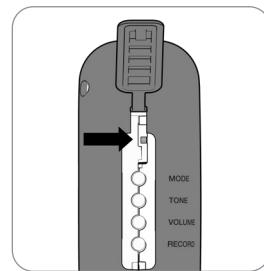

Fig. 12
**NOTE:** The fall monitor supports both normally open and normally closed nurse call systems. The manufacturing default is normally open. If you would like to change to normally closed, use a small pointed object, for example a pen, to slide the switch down to the closed position. (Fig. 12)